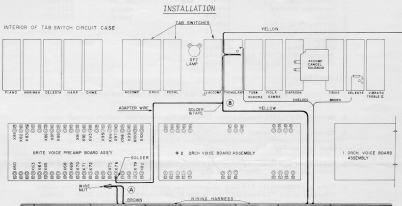

Fig. 1
3. Remove the two brown wires from terminal "X76" of the Brite Voice Preamp Board Assembly. Connect these wires together using the wire nut provided. (See "A" on Fig. 1.)
4. Solder one end of the adapter wire to terminal "X76" of the Brite Voice Preamp Board Assembly. (See "A" on Fig. 1.)
5. Strip approximately 1/4 inch of insulation away from one of the yellow wires attached to the "Tremulant" tab in the 8' Accompaniment Tab Bank. Solder the other end of the adapter wire to this wire. Insulate with plastic tape. (See "B" on Fig. 1.) Replace the shield, top and back panel.